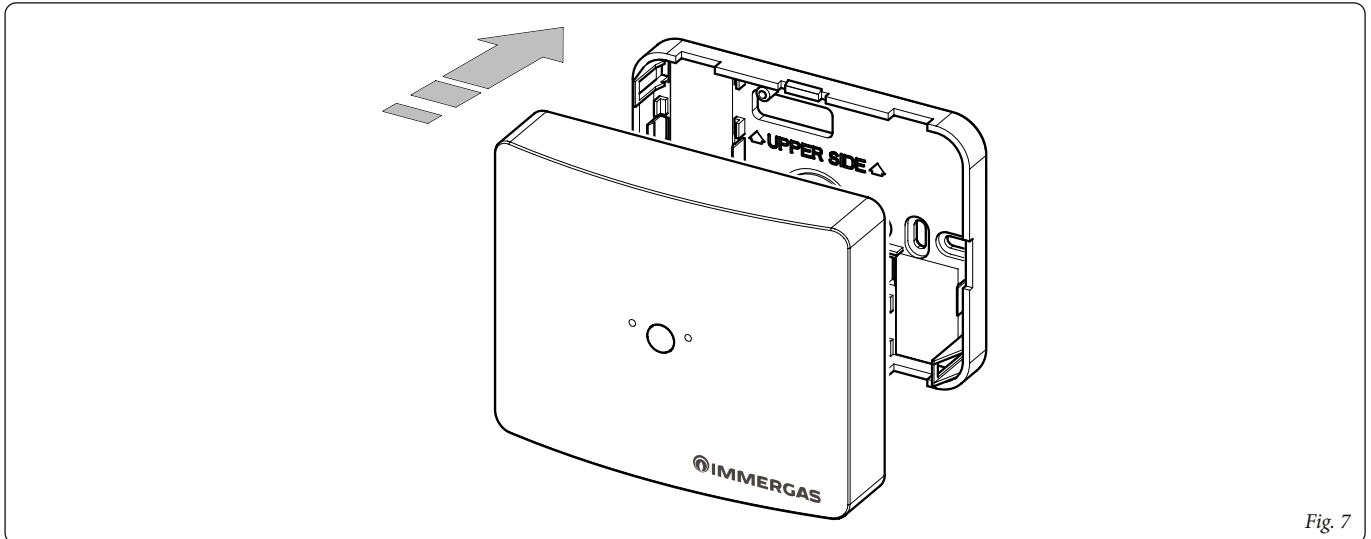

Fig. 7
3) Fissare il coperchio della sonda ambiente wireless al supporto innestandolo a pressione (Fig. 7).
3) Secure the cover of the wireless room probe to the support by engaging it by pressure (Fig. 7).